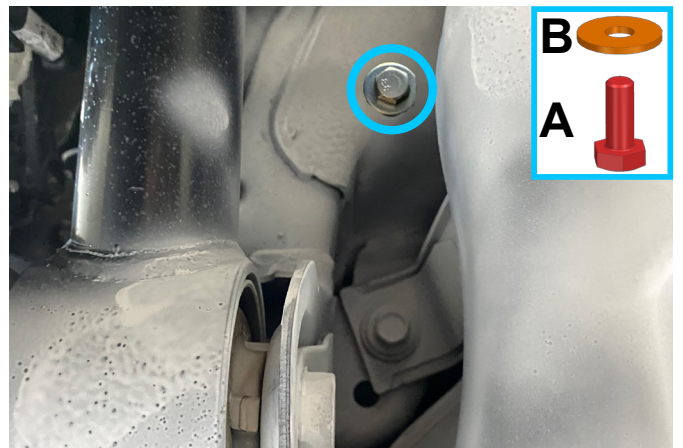

Fig. 8
8. Attach bolt M10x25 (item A) and washer 10 (item B) to installed insert nut M10 with wires (item C) from step 7 (Fig.8).